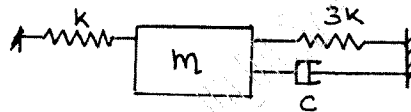

Fig. Q3 (b)
b. Determine the value of C such that the system shown in Fig. Q3 (b) is critically damped, if $m = 10$ kg and $K = 10,000$ N/m. (05 Marks)